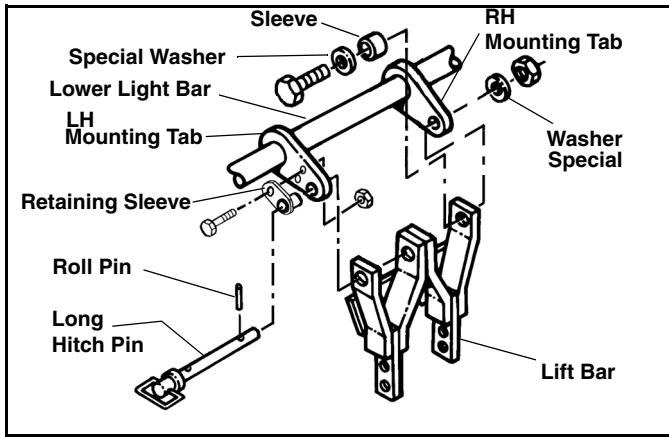
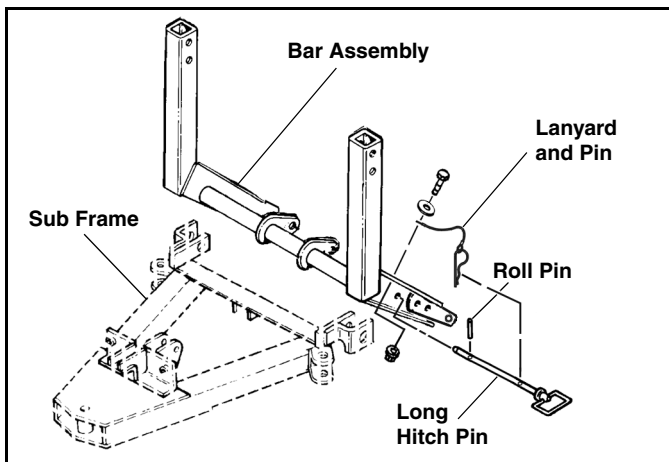

Figure 3
Figure 4
5. Install Sleeve Assembly (#96103515) through the 1" holes in the left side mounting tab on the Lower Light Bar Assembly and the Lift Bar Assembly with the retaining tab to the outside. Retain the Sleeve Assembly with one 5/16" x 1" Capscrew (#98100261) and one 5/16" Nylock Nut (#98009150) as shown in Figure 3. It is important that the retaining tab is fastened to the upper 5/16" hole in the mounting tab of the Lower Light Bar Assembly.
6. Align 1" hole in right side mounting tab, on Lower Bar Assembly Cross Tube, with matching hole in Lift Bar and insert Sleeve (#96103558) secure with 1/2" x 2" Capscrew (#98100010), two Special Washers (#98100176), and Nylock Nut provided. Tighten to 75 Ft. Lbs. (Figure 3)
7. Attach the Lanyard and Pin Assembly (#96105044) to the left side channel of the Lower Light Bar Assembly with one 1/4" x 1" Capscrew (#98019027), 1/4" Plain Washer (#98100254) and Nylock Nut (#98100255) as shown in Figure 4.
between the Lift Bar and mounting tab of the Lower light Bar Assembly. With the Long Hitch Pin fully inserted, install the Roll Pin (#98100008) in the 1/4" hole in the Hitch Pin. Install the pin so that the exposed ends are approximately the same length on each side of the Hitch Pin. (Figure 3) (Figure 4)